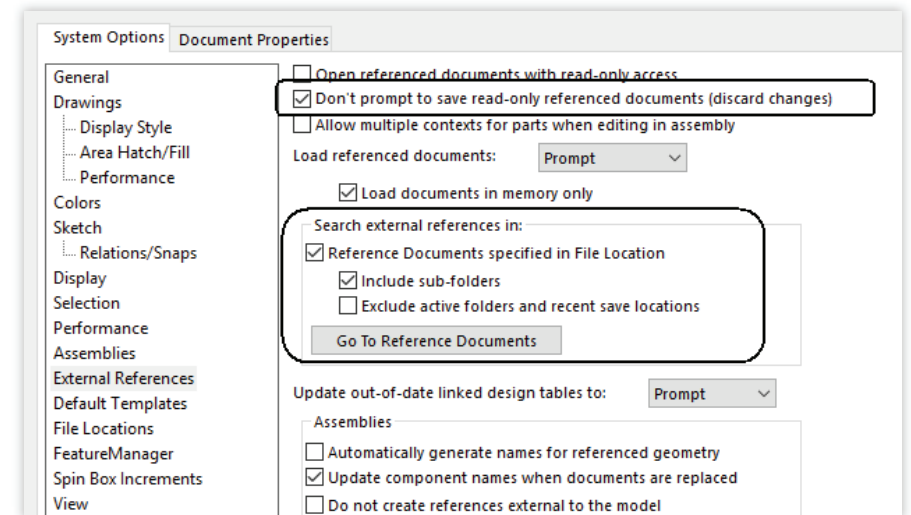

Fig. 31
8. Open the **External References** page. Check the **Don't prompt to save read-only referenced documents (discard changes)** box. In the **Search external references** section, check the **Reference Documents specified in File Location** box and **Include sub-folders** box. See Fig. 31.